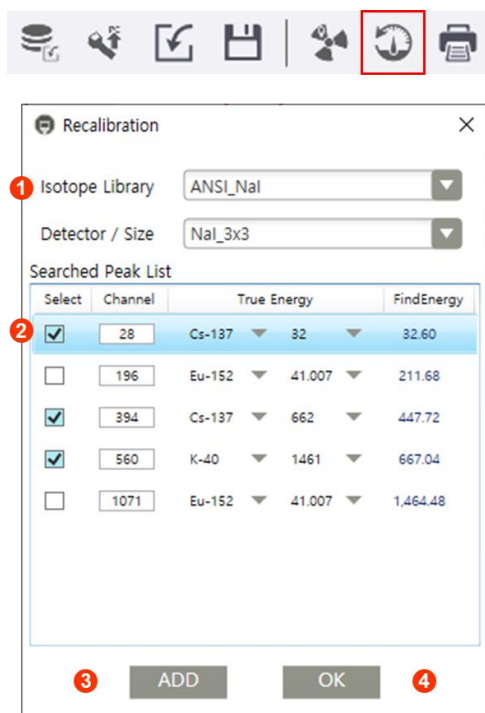

Figure 7.8.10. Recalibration setup window example
2. Recalibration window pop up as shown in figure 7.8.10.